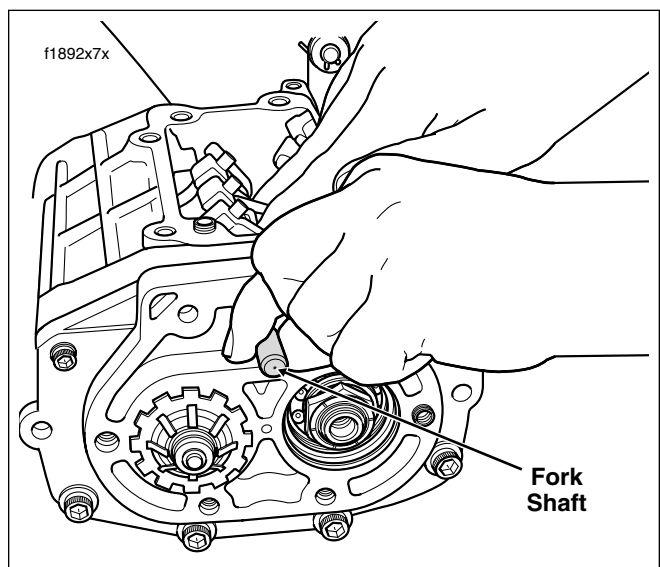

Figure 7-5. Remove Fork Shaft/Shifter Forks (Right Side View)
12. Remove the fork shaft from the hole on the right side of the transmission case. See Figure 7-5. Remove the shifter forks from the mainshaft and countershaft gear grooves.
3. Insert the fork shaft into the hole on the right side of the transmission case. Slide the shaft through the shifter forks and into the drilling on the left side of the case. See Figure 7-5.